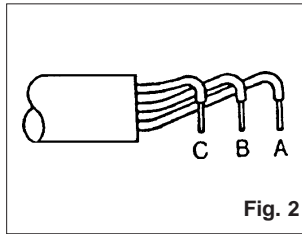

Fig. 2
3. Loosen terminal screws and insert conductors fully into proper terminals as identified in Table 1 below. Insertion is easier if conductors are pre-bent at a right angle as shown in Fig. 2.